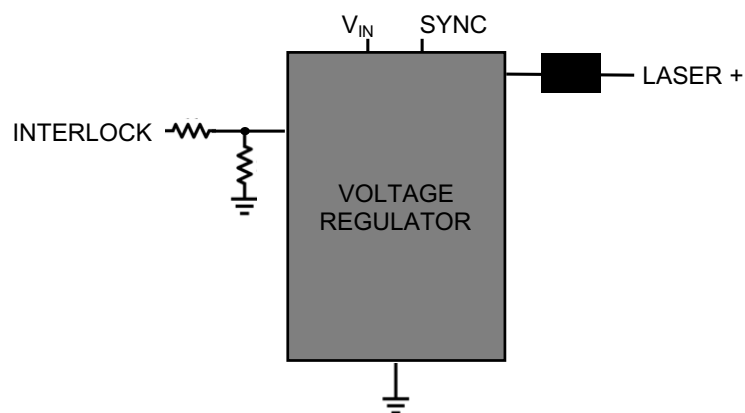

Figure 6.1: Simplified IN_VREG_INTERLOCK connection schematic
- IN_VREG_INTERLOCK Gates the main voltage regulator chip on the driver card, effectively the DC power supply. Schematized in Fig. 6.1.